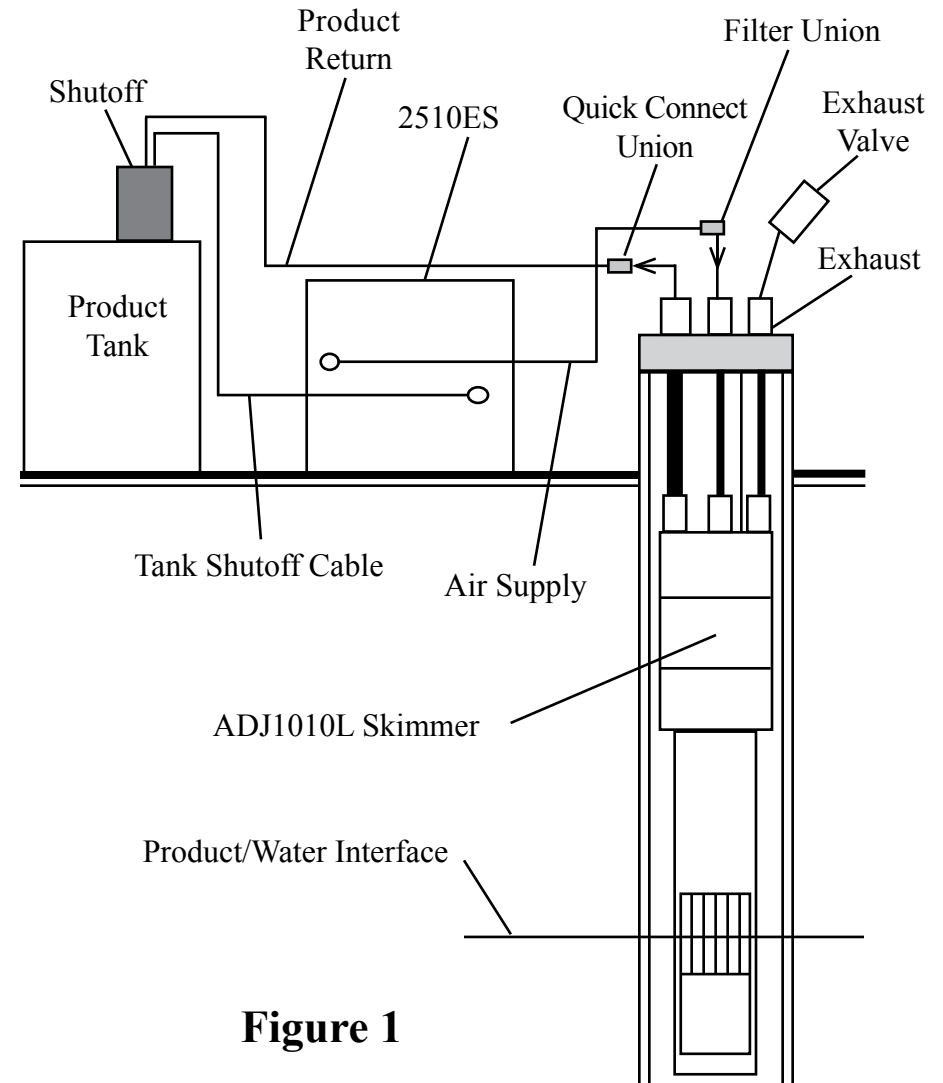
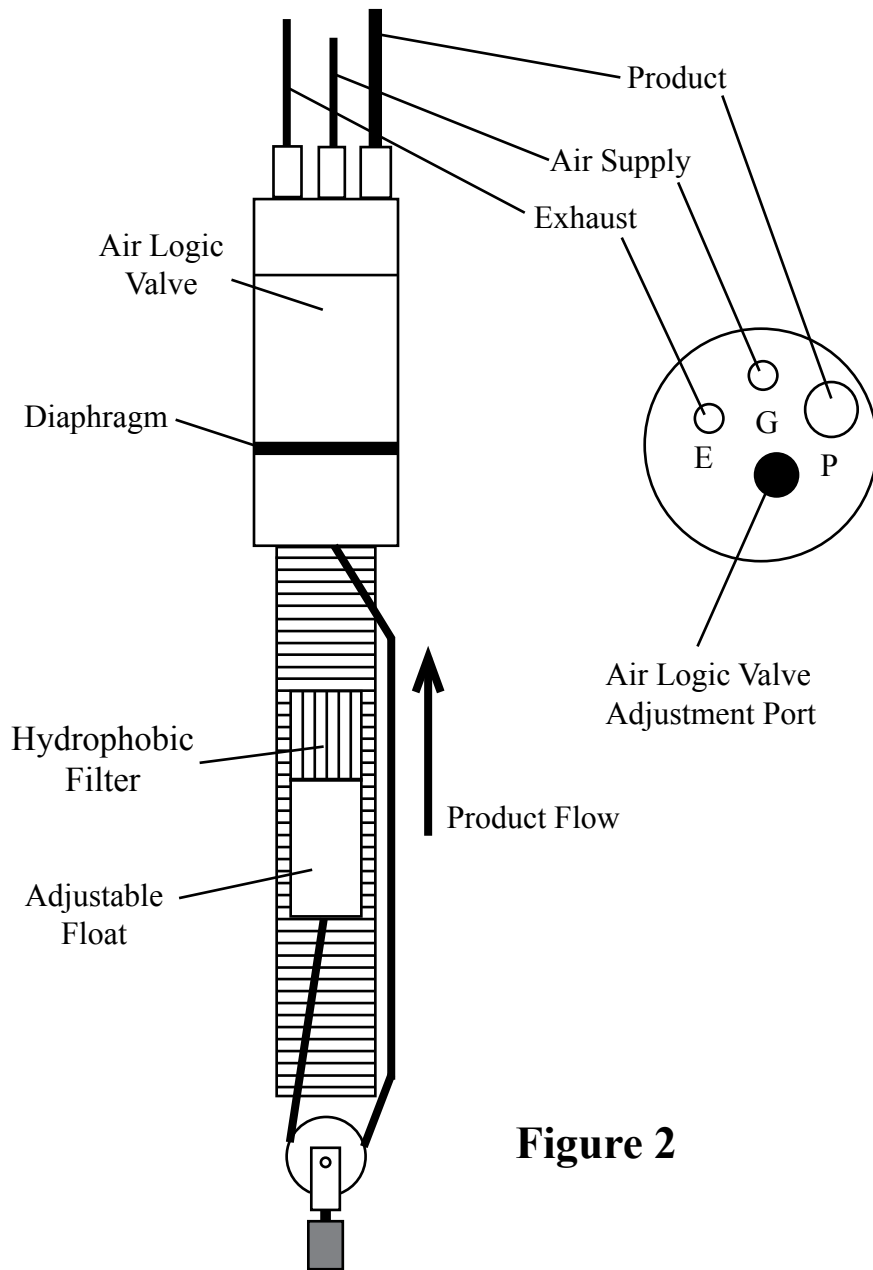

Figure 1
Figure 2
The system (Figure 1) relates to a floating LNAPL recovery system for wells four inches in diameter and larger. This system includes: an intrinsically safe ADJ1010L pneumatic Smart Skimmer, with an adjustable float (Figure 2), which removes LNAPL up to 200 feet deep; and an electronic Control Station Model 2510ES which operates the skimmer intermittently, records run time, and has a high level tank shutoff.
STEP 1. Place programmable Control Station Model 2510ES (Figure 1) near the air source, power source, and holding tank if possible. **CAUTION:** The Model 2510ES is NOT intrinsically safe. If this controller must operate in a CLASS I area, use the XITECH Model 2550ES CLASS I Controller instead.
STEP 2. Install holding tank shutoff assembly into holding tank (a 2” standard pipe inlet will be required in the holding tank). The level of product in the holding tank can be set by raising or lowering the liquid level float switch rod. Plug the high level shutoff switch cable connector into the left end of the controller (Figure 1).
STEP 3. Attach power line from the AC power source to the right end of the controller (Figure 1). Turn on the controller power switch. If the red “Product Tank Full” light stays on, you have a problem with tank shutoff wiring. Turn off the power switch and re-check the tank shutoff wiring. If the light continues to stay on, call the factory.
STEP 7. Position the skimmer and well cap on the ground near the well. **NOTE:** If the skimmer is over 60 feet deep, use a vented design skimmer. Cut a length of 3/8" OD air supply tubing to cover the distance from the top of the well down to water/product interface, plus 5 feet. Slide enough tubing through the well cap and attach the end of the tubing to the top of the skimmer tube fitting labeled "G" (Figure 2). If the product thickness is greater than 1 foot, position the center of the skimmer screen 1 foot below top of product. If the product thickness is less than 1 foot, position the center of the skimmer screen at the water/product interface.
STEP 8. Cut a length of 1/2" OD product tubing same length as the air supply line. Install 1/2" OD product tubing through the well cap tube fitting labeled "P" (Figure 2). Slide enough tubing through the well cap and attach the end of the tubing to the top of the skimmer tube fitting labeled "P". **CAUTION:** Do not kink the tubing.